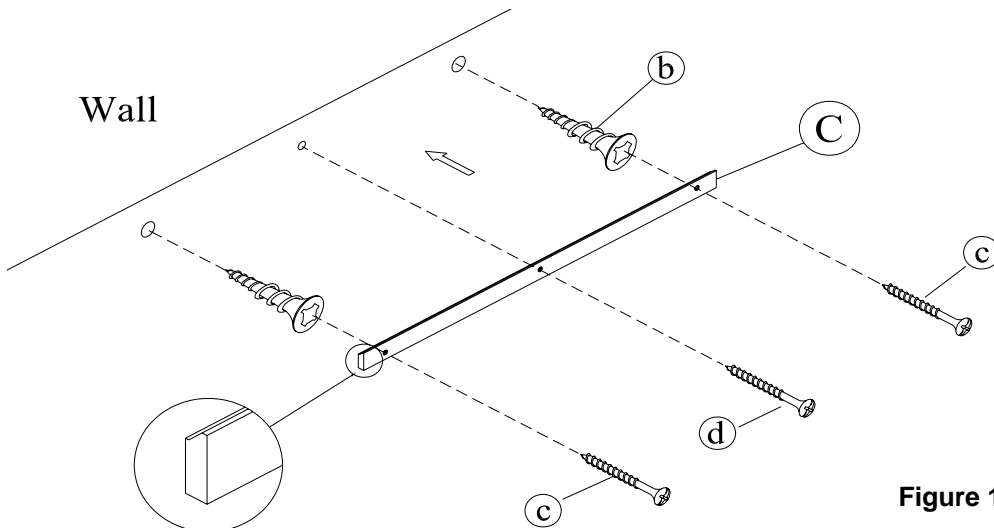

Figure 1
1. Find wall studs and determine the desired placement on the wall for the product. Position the wall rail (C) on the wall and adjust so that the rail is level. It is better to mount the wall rail to at least (1) stud. Then, use a felt-tipped pen to mark the wall through the three pre-drilled holes of the rail to indicate the locations of the drywall toggles.
2. Drill the holes at the marked places on the wall. Then Use a manual screwdriver, drive two toggle (b) into the drywall at the marks on the left and right. To install these toggles (b) into the wall, simply rotate them at the marked location as if they were a large screw, applying smooth even force. **DO NOT HIT THEM WITH A HAMMER AND DO NOT USE A POWER DRILL TO ROTATE THEM.** These toggles are designed to bore themselves into the wall. Continue rotating until the toggle head advances flush with the wall surface. See **Figure 1**
3. Once the toggles (b) are installed into the wall at the marked locations, reposition the wall rail (C) so that the marked holes of the rail align with the toggles. Using the supplied toggle screw (c) secure the rail (C) to the installed toggles (b). Note: Tighten toggle screw flush with item, the screw pops open the Toggle, this reinforces the wall and increasing its holding power significantly.